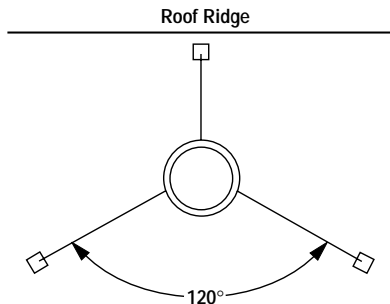

Figure 32
Note: If chimney extends more than 8' above roof surface, guy wires are also recommended. Use three (3) guy wires, attach to locking band assembly, extend and secure to roof in a triangular pattern (**Figure 32**). Guy wires are not supplied by the manufacturer.